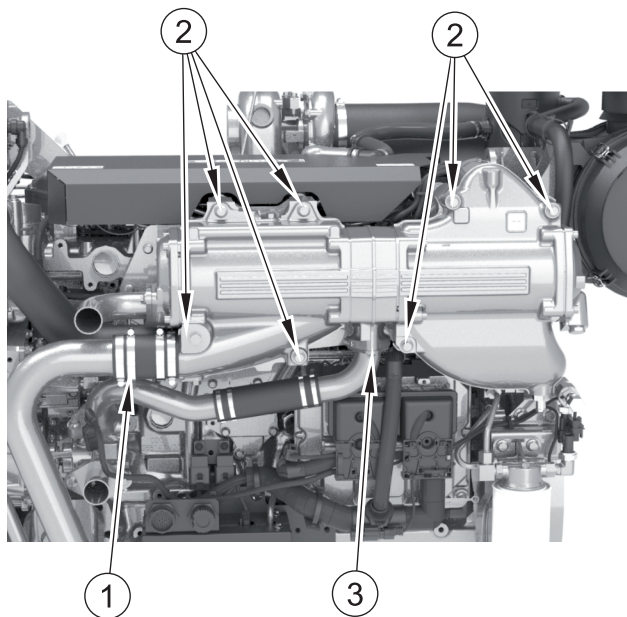
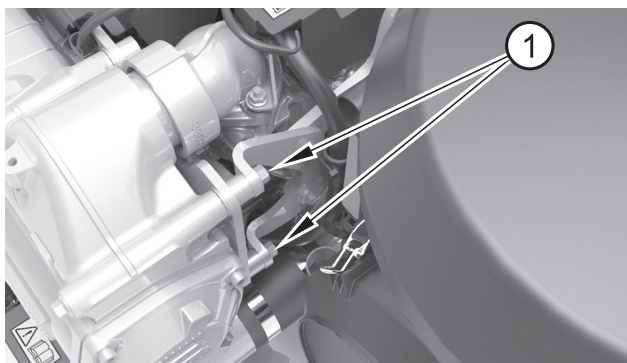

Figure 16
Figure 17
2. Slacken the hose clips (figure 16 item 1).
3. Remove bolts (item 3) and remove hose assembly.
4. Remove bolts (item 2).
5. Remove the bolts that secure the assembly at the rear (figure 17 item 1).